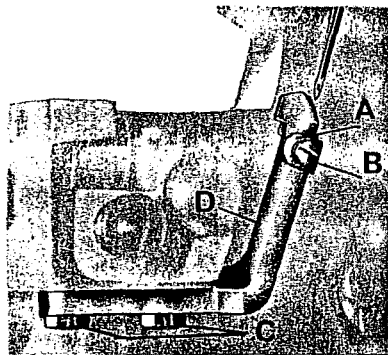

fig. 10
6. Setting the needle guards (fig. 10)